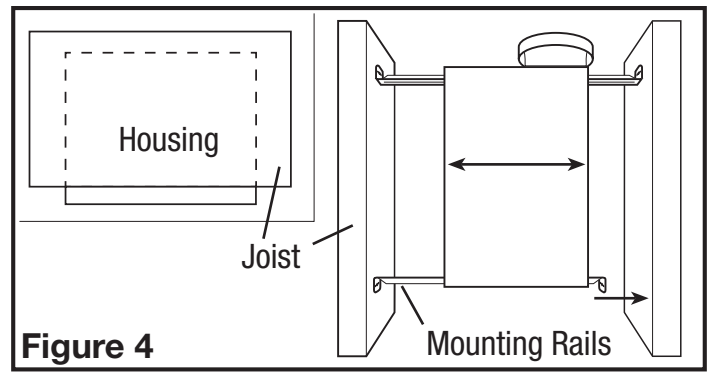
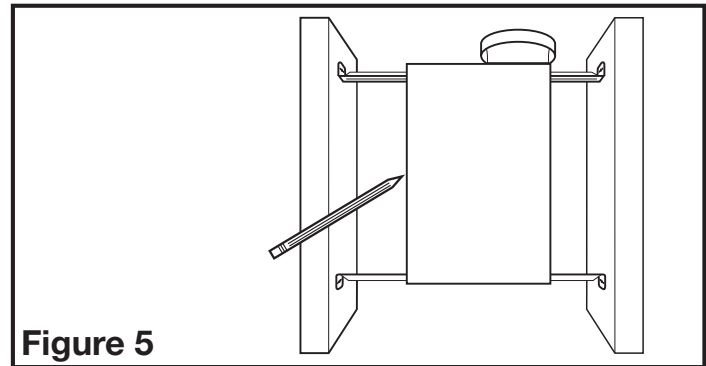

Figure 4
Figure 5
1. Install the rails on the housing and position the housing next to the joist. Line up housing so it will be flush with the finished ceiling. Secure the ends of the rails with screws or nails (not included) to the joists and slide housing into final position (**Figure 4**).
1. Set housing in position between the joist and trace an outline onto the ceiling material (**Figure 5**). Set housing aside and cut opening, being careful not to cut or damage any electrical or other hidden utilities. Install the rails on the housing and position the housing in the previously cut hole so that it is flush with the finished ceiling. Secure the ends of the rails to the joists with screws or nails (not provided) to ensure proper installation (**Figure 4**).